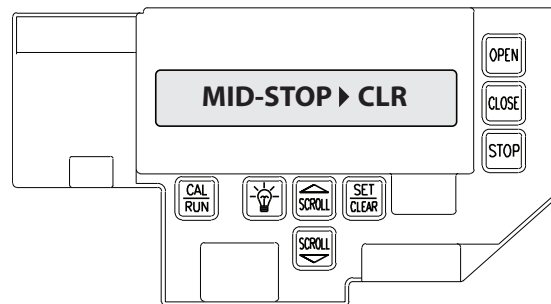

Figure 11
- 3) Press SCROLL (DN) until the display reads "MID-STOP > CLEAR."
- Fig. 11.**